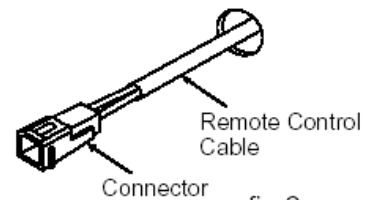

fig.2
3. Run the cable provided through the hole in the wall ensuring that the end fitted with the connector is nearest the controller. (fig. 2.)